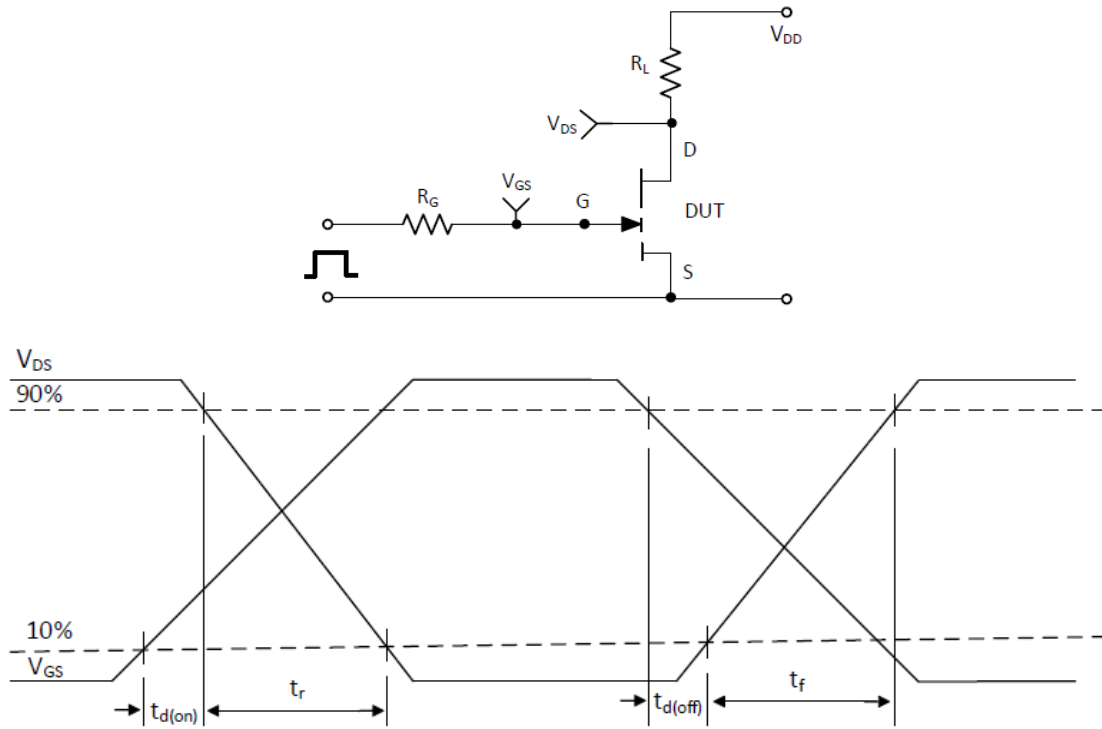
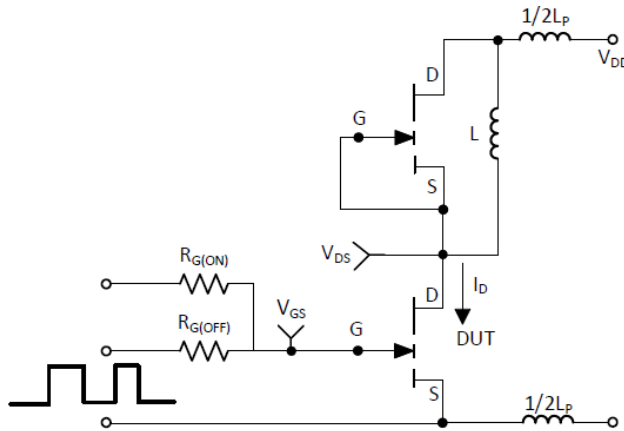

Figure 16: Switching time test circuit and waveforms
Figure 17: Switching Loss Test Circuit
(6) See Figure 16 for switching time test circuit diagram and waveform definitions.
(7) L_P is the switching circuit parasitic inductance.
(8) See Figure 17 for switching loss test circuit.